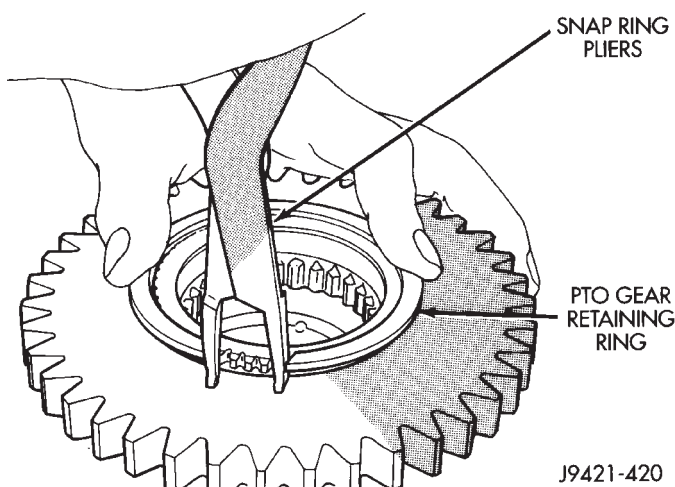

Fig. 53 Installing PTO Gear Retaining Ring
- (8) Install PTO gear retaining ring (Fig. 53).